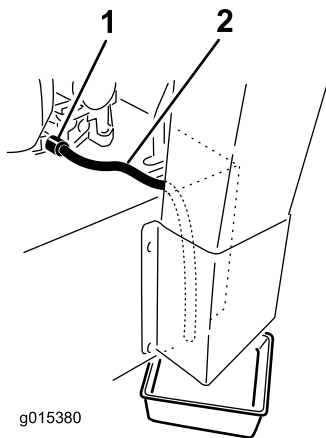

Figure 37
5. Place a pan below the drain hose. Rotate the oil drain valve to allow oil to drain (Figure 37).